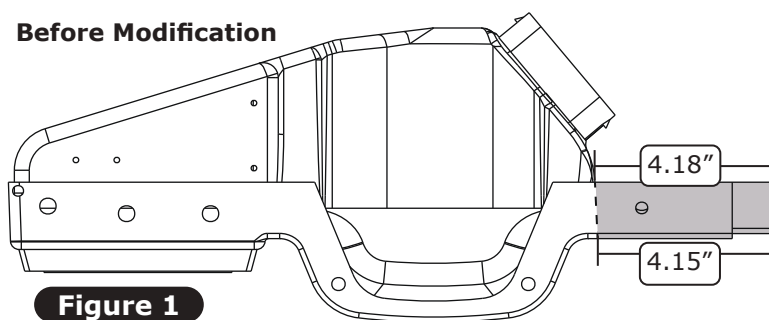
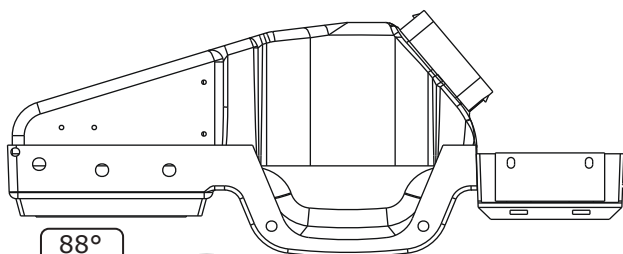

Figure 1
Figure 3
1. The driver-side under dash louver assembly must be modified to clear the 4WD switch. Trim the right side end of the assembly using the provided dimensions (See Figures 1 and 2, below), this is the width of the OEM 4WD switch. Before trimming, verify your OEM 4WD switch dimensions, they may vary. **NOTE: The side wall of the 4WD switch has 2 degrees of draft, consider this when cutting to reduce the gap between the driver-side under dash louver bezel assembly and the 4WD switch (See Figure 3, below).**